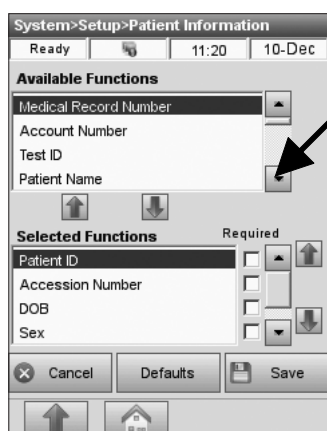

Fig. 3-18 Patient Information
4. Scroll down for the following additional options (Fig. 3-18).